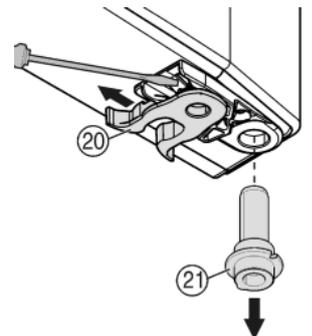

Fig. 8
- Transfer the spring clamp Fig. 8 (20): Depress the latch nose and pull the spring clamp off over it.
- Pull the bearing pin Fig. 8 (21) out of the door bush and transfer it to the opposite side together with the washer. The latch nose must point to the inner side of the door, the notch to the outer side.
- Swing the door in at the bottom and insert the bearing pin Fig. 8 (21) into the turn hinge. If necessary, turn the bearing pin until it snaps into place.